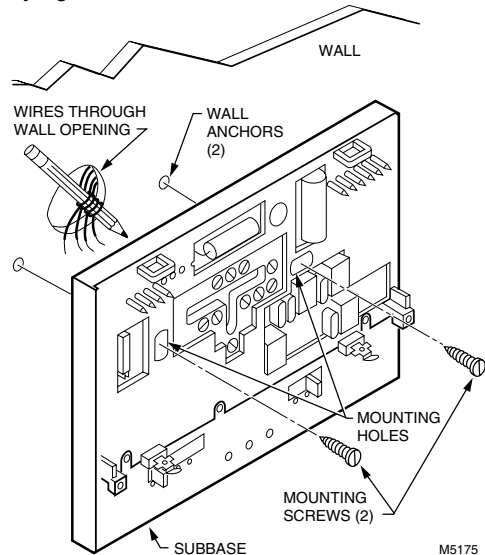

Fig. 2—Mounting subbase on wall.
- Mount the subbase directly onto the wall with the screws included in the package. Use the subbase as a template, and with a pencil, mark the two mounting screw positions (Fig. 2). Use 3/16 in. bit to drill holes for anchors. Gently tap anchors into holes until they are flush with the wall surface.